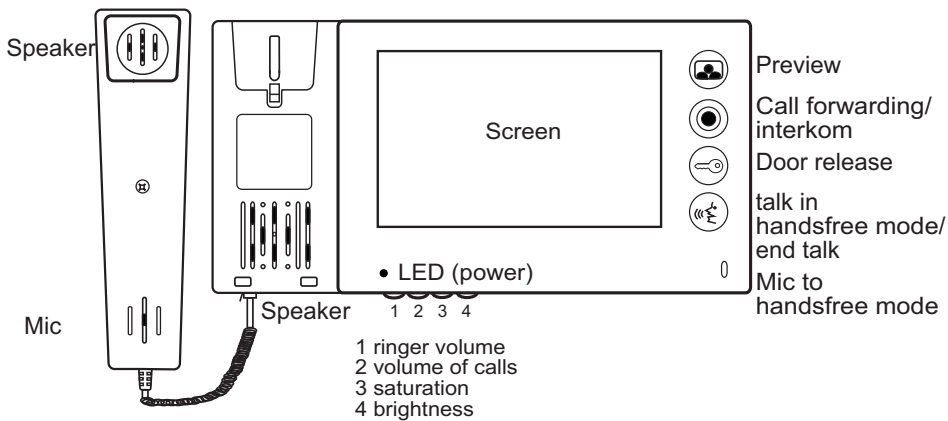

Fig 1. MVC-6701 video monitor
- To switch on voice communication, press the button «☎» (talk, see Fig. 1). In two-monitor installations, if voice communication has been established by one of the monitors, the other one will switch off after approx. 1 minute.
- The MVC-6701 monitor features controls for volume, brightness and colour saturation adjustment (see Fig. 1).